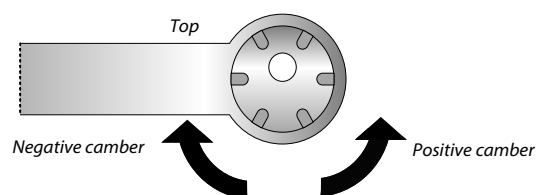

Figure 2: Inner Bush Orientation and Camber Adjustment
7. With the bolt for the inner bush still loose, adjust camber angle on the inner sleeve with the C45 spanner according to Figure 2.